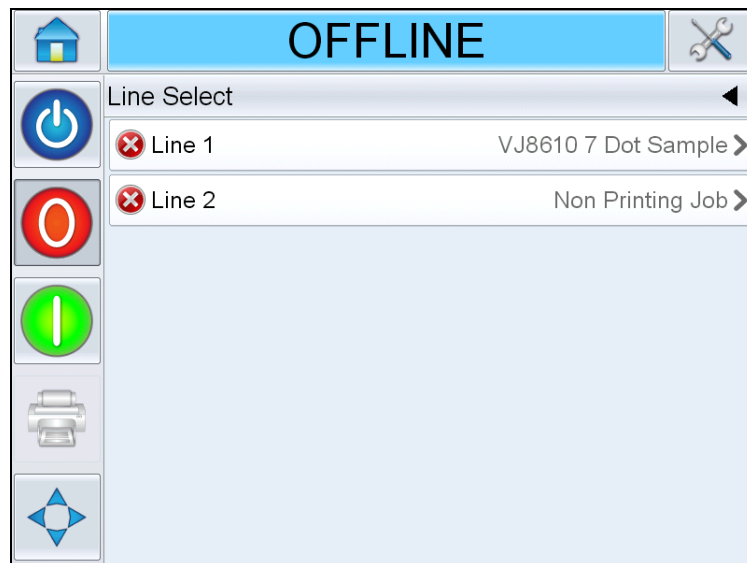

Figure 6-20: Line Select Page
- 4 *Line Select* page appears again (see Figure 6-20).